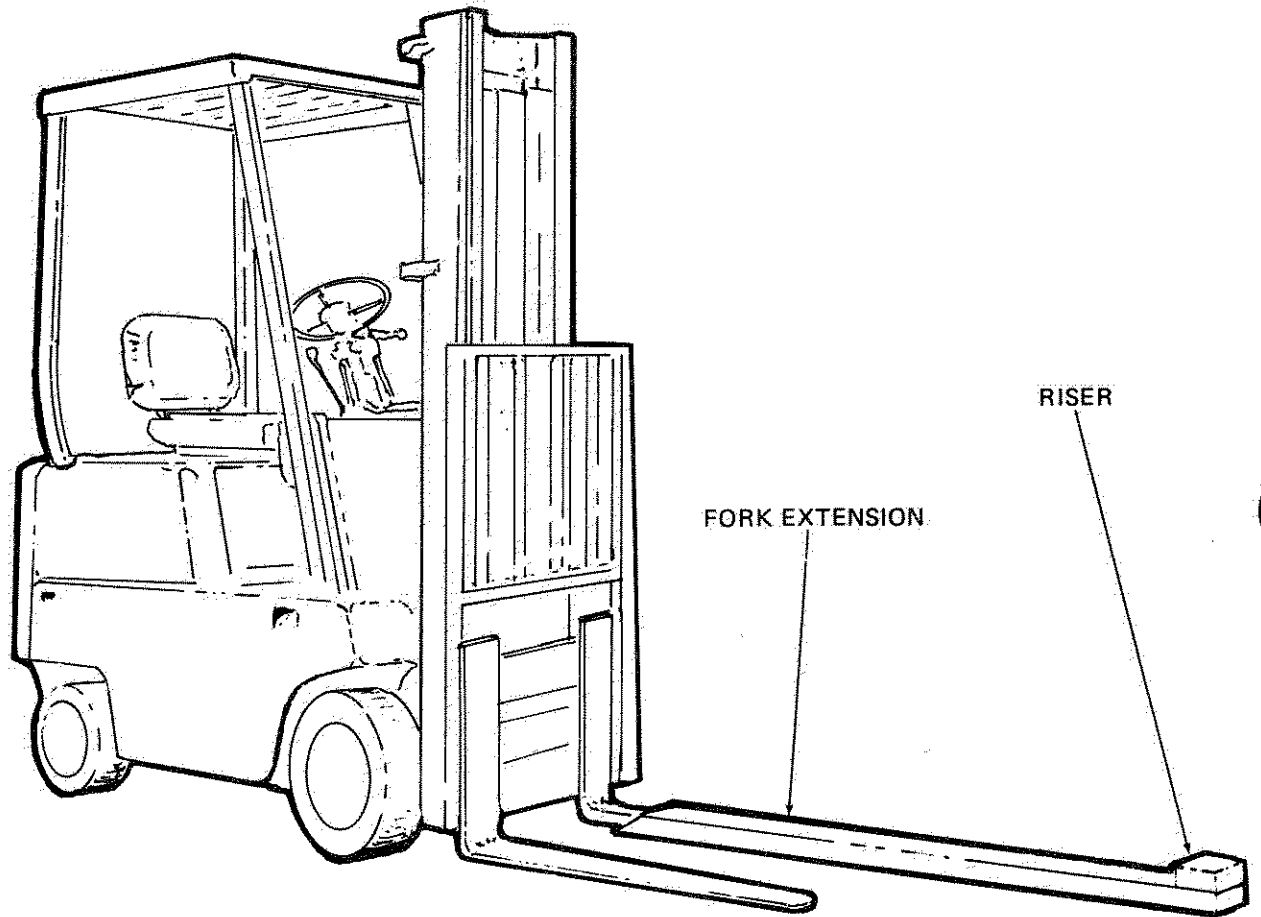

Figure 6-105. Fork Extension with Riser
- 5. Install fork extension on one fork of forklift (Figure 6-105).
1. Position forklift so fork extension riser (Figure 6-105) is in place for transformer lift.